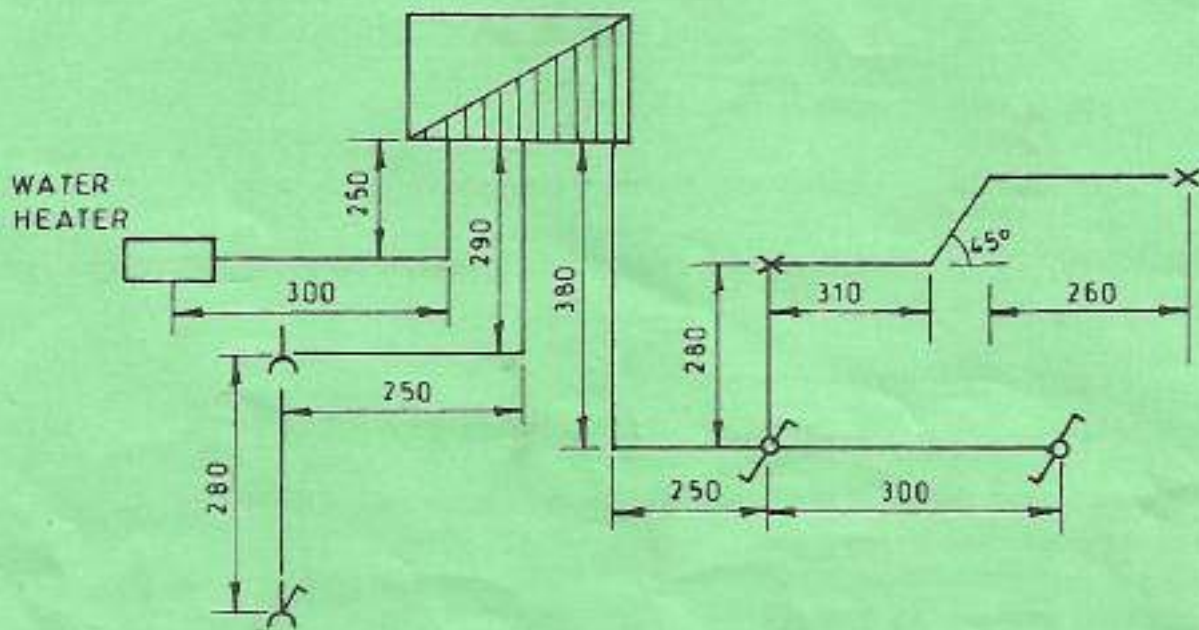

Fig. 3
3. Figure 3 shows the layout of three final circuits.